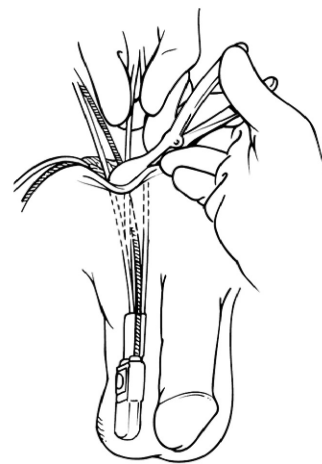

Figure 4-11. Place Pump Into Pouch
19. Place pump into scrotal pouch with deactivation button facing outward so that it is palpable. (**Figure 4-11**)